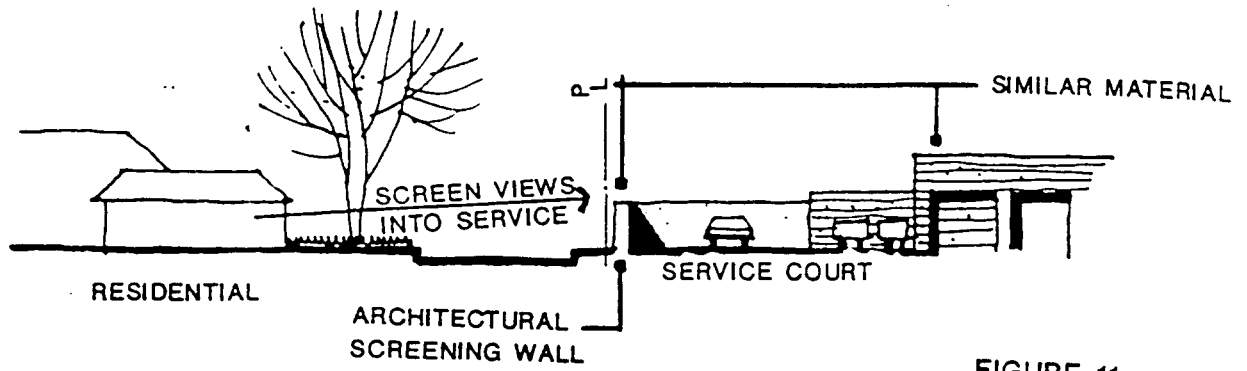

FIGURE 11
- Architectural screens should be an extension of the development's architectural treatment and consistent in color and design. (See Figure 11.)